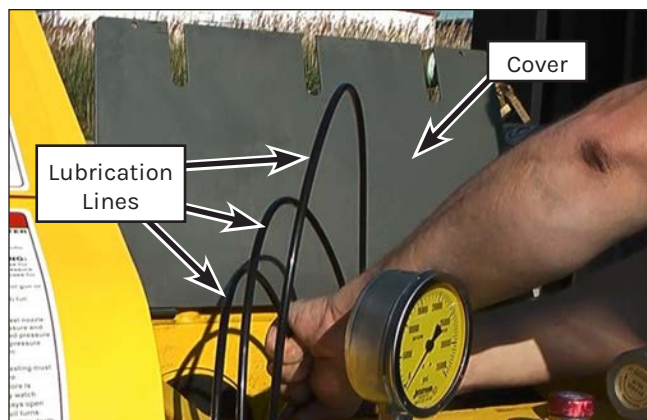

Figure 101: Disconnecting the Lubrication Lines.
4. Open the rod box cover (Figure 101) and disconnect the lubrication lines from the stuffing box fittings.